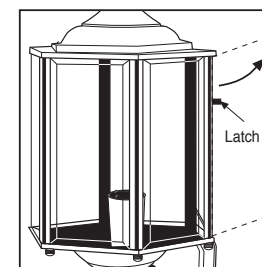

Figure 4
- For fixtures with a hinged door, lift latch upwards to open door. Insert bulb(s) and relatch the door (see figure 4).